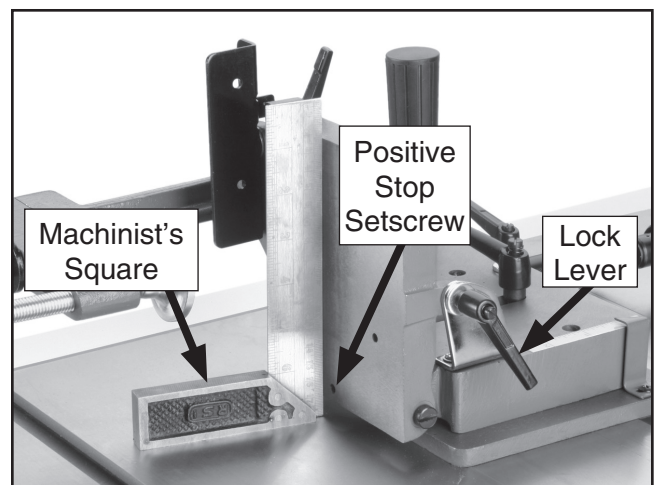

Figure 9. Machinist's square placement.
3. Position a machinist's square against the table and the work support plate as shown in **Figure 9**.
5. Turn the positive stop setscrew (**Figure 9**) inward with a 3mm hex wrench until it stops. The positive stop is now set for quick perpendicular positioning of the work support table.